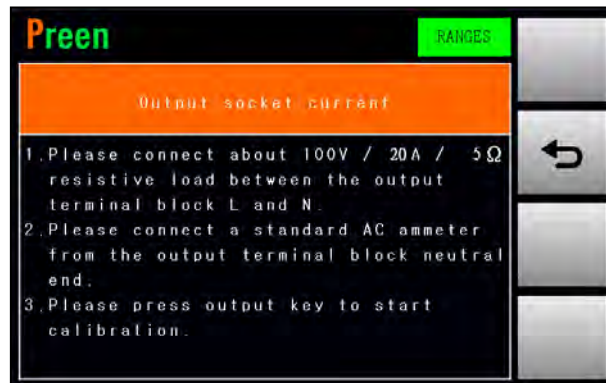

Figure 4.19 Enter into the page which calibrates the output socket current
1. Press the item Output socket current repeatedly to enter into the page which calibrates the output socket current (refer to Figure 4.19).